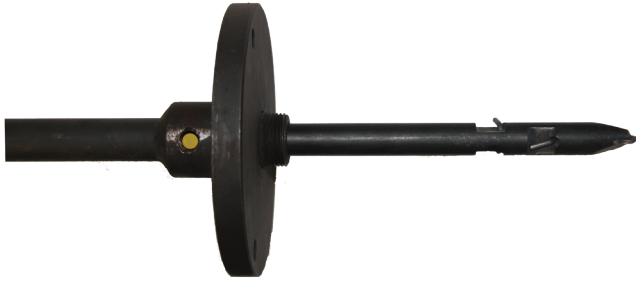

Figure 15
3.3.9) Confirm you have completely inserted the pilot drill and engaged the tapered flat. Look into set screw hole for the marking on the pilot bit. Adjust the pilot drill until you can see the marking (see Figure 15).